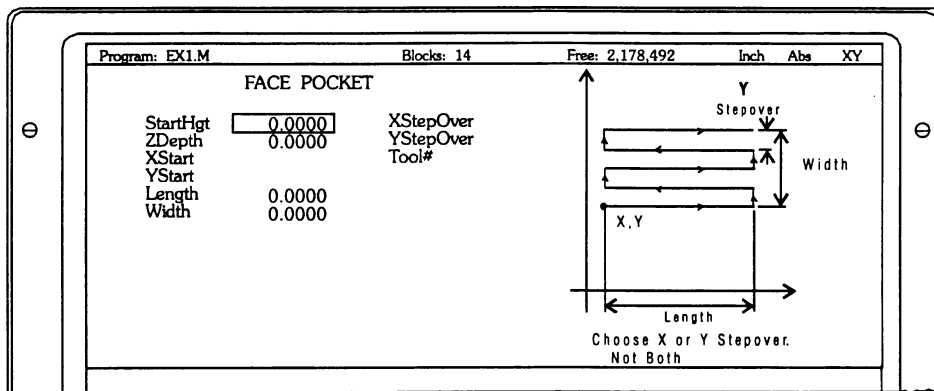

Figure 8, Face Pocket Screen Diagram
2. Move the highlight to mark **Face** and press (ENTER), , (display prompts for labeled values, see *Figure 8, Face Pocket Screen Diagram*).